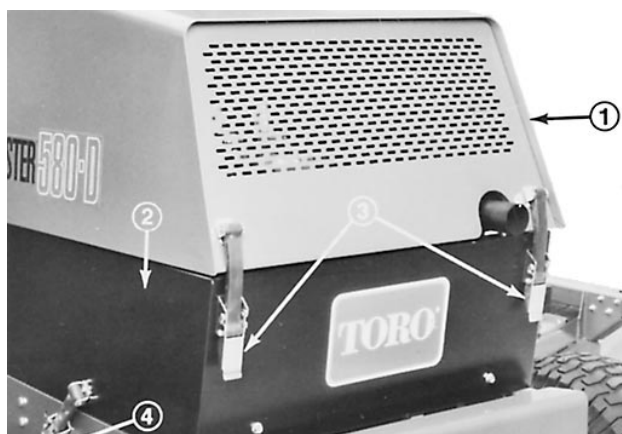

Figure 22
1. Unlatch, raise and prop the engine hood open and remove the left side panel (Fig. 22).